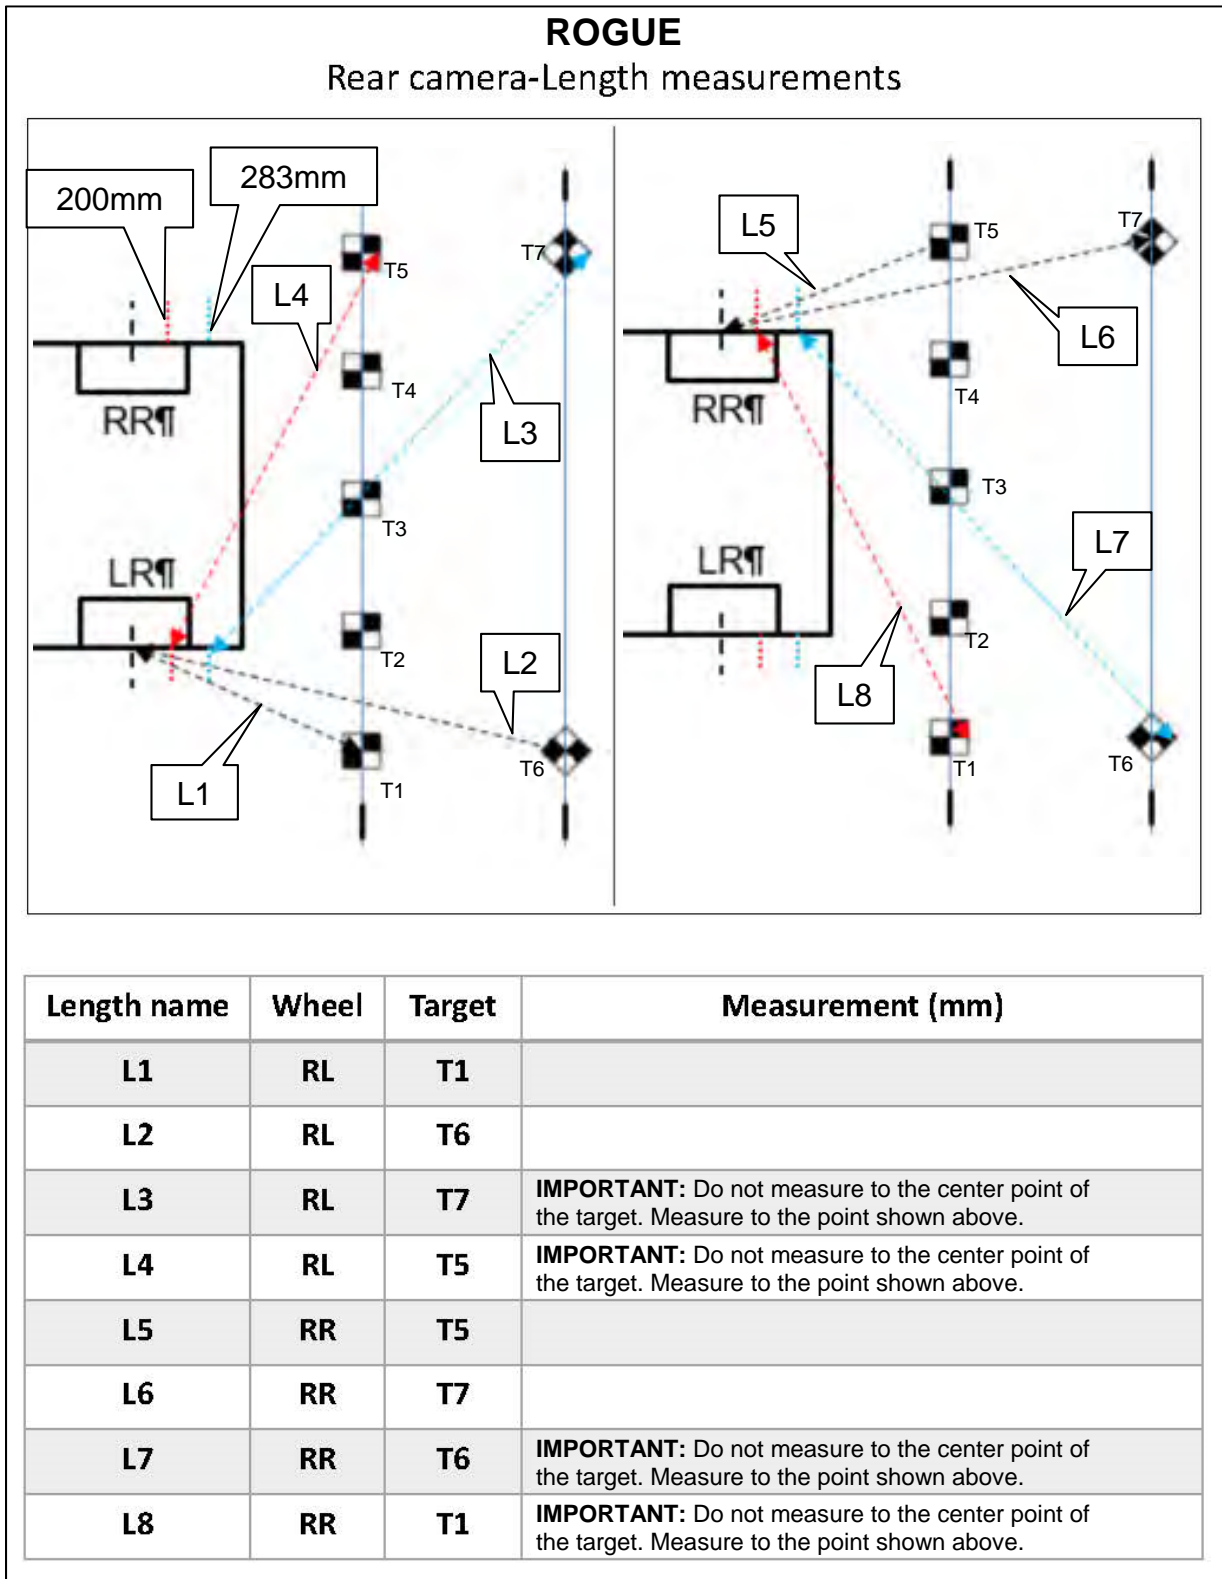

Figure 109
**IMPORTANT:** All measurements must be in millimeters (mm). Refer to the illustrations in Figure 109 on page 54 to ensure the correct measurement is documented in the correct order and for each calibration target.
67. Measure the distance between the center point of the driver (LH) side rear wheel to the center of the calibration target T1, and then document that distance as L1 in Figure 109 on page 54.
68. Measure the distance between the center point of the driver (LH) side rear wheel to the center of the calibration target T6, and then document that distance as L2 in Figure 109 on page 54.
69. Measure the distance between the 283 mm mark of the driver (LH) side rear wheel to the most rearward point of the calibration target T7, and then document that distance as L3 in Figure 109 on page 54.
70. Measure the distance between the 200 mm mark of the driver (LH) side rear wheel to the most rearward point of the calibration target T5, and then document that distance as L4 in Figure 109 on page 54.
71. Perform steps 67 - 70 starting on page 52 for the passenger (RH) side rear wheel measurements L5-L8, and then document the distances in Figure 109.